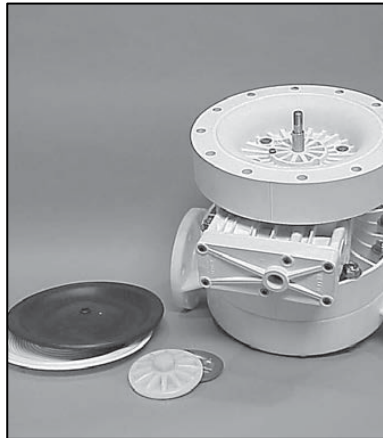

Figure 10b
2) The outer piston, diaphragm and inner piston separate from the shaft which remains connected to the opposite side diaphragm assembly (Figure 10b). Repeat disassembly instructions for the opposite liquid chamber. Inspect diaphragm assembly and shaft for signs of wear or chemical attack. Replace all worn parts with genuine Wilden parts for reliable performance.